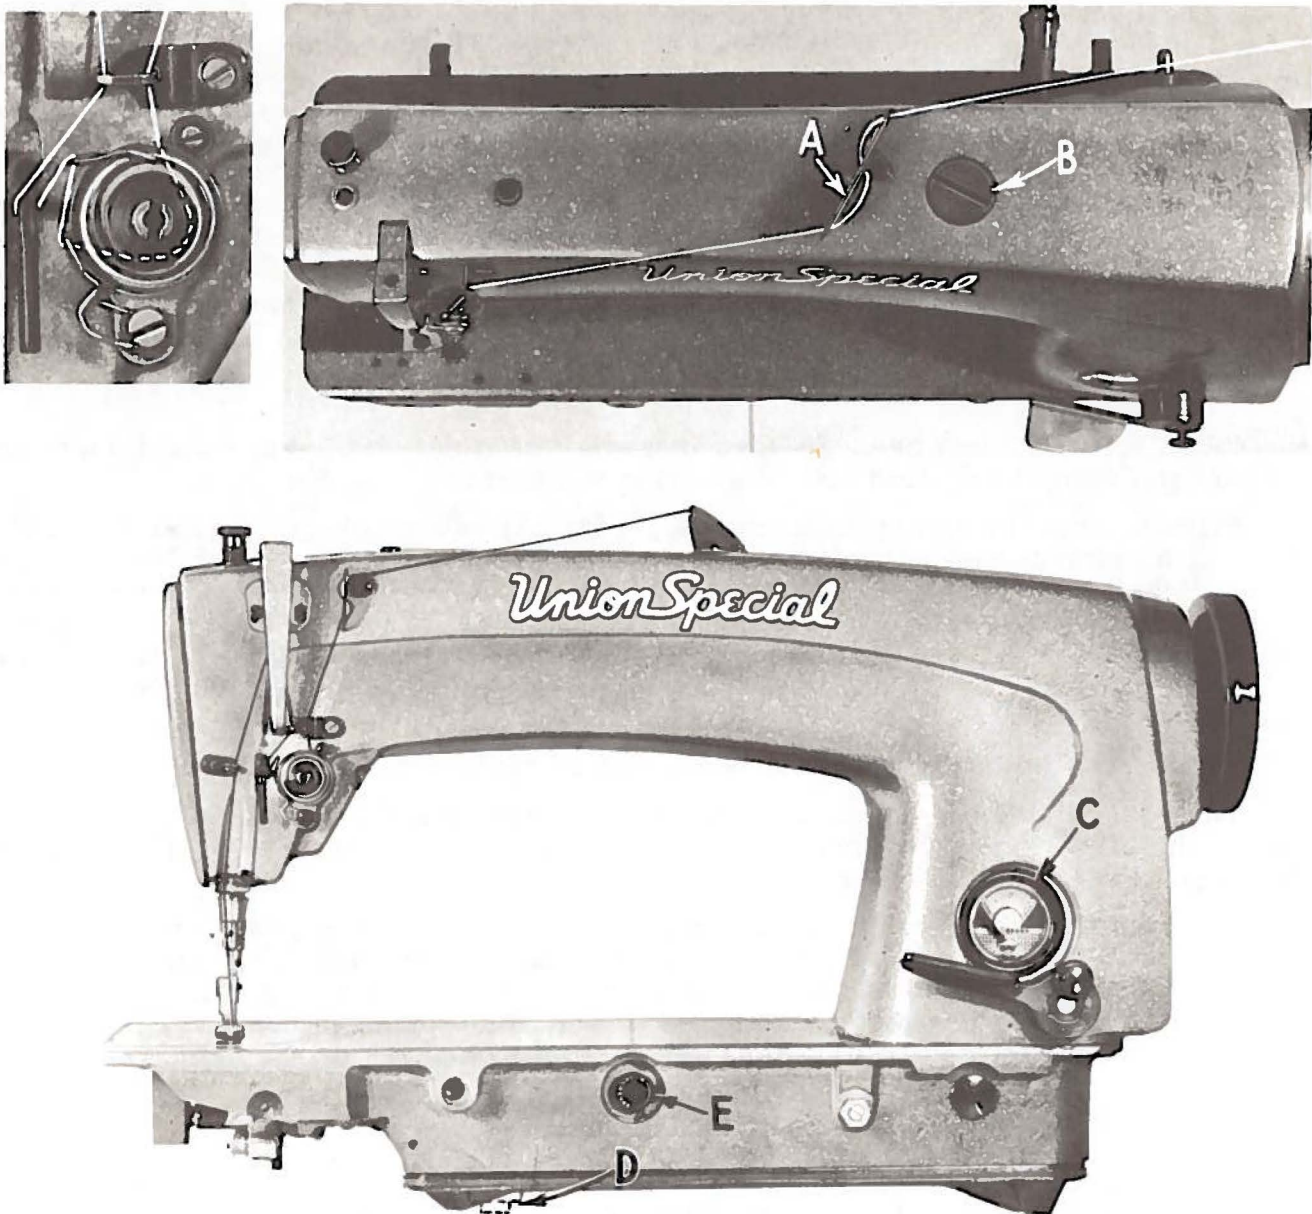

Fig. 2A
Insert hinge studs in holes provided for them in rear of cloth plate. Assemble the upper frame eyelet to top of arm (A, Fig. 2A).
Thread machine Styles 63400 X and Y as indicated in Fig. 2A, noting that the thread passes thru the frame thread eyelet (A) thru the rear hole from right to left, thru the middle hole from left to right and then thru the front hole from right to left. Then it passes thru the next frame thread eyelet from right to left thru the upper hole, thru the middle hole from left to right and finally thru the lower hole from right to left. Machine Styles 63400 KX and KY are threaded thru the rear hole of frame thread eyelet (A) from left to right and thru the front hole from right to left, no threading thru the middle hole. On Styles 63400 KX and KY the thread then passes thru the next frame thread eyelet only thru the upper hole from right to left. Threading at check spring has been enlarged for clarity. Needle is threaded from left to right.
Fill main reservoir at plug screw (B, Fig. 2A) and check oil level at gauge (C). Oil is at maximum safe operating level when the needle is to the black line, located to the right of "OPERATE" zone, marked "FULL". Oil should be added when needle is to the black line, located to the left of "OPERATE" zone, marked "LOW". Use a stainless water-white straight mineral oil of a Saybolt viscosity of 90 to 125 seconds at 100°Fahrenheit in the main reservoir. This is equivalent to Union Special specification No. 175.
Oil may be drained from main reservoir by removing plug screw (D, Fig. 2A).